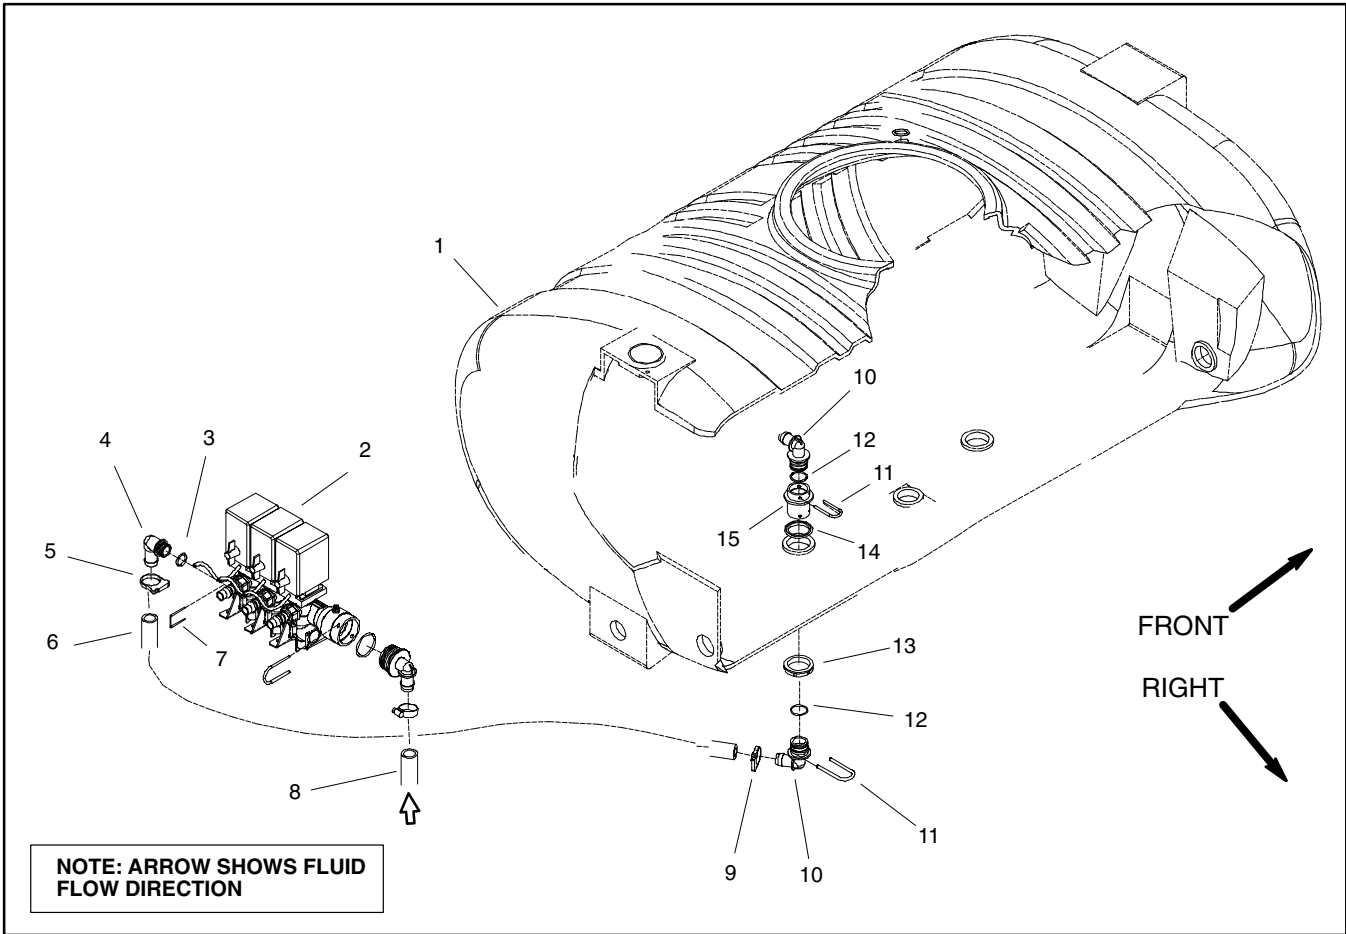

Figure 29
### Disassembly (Fig. 29)
3. Disassemble boom bypass using Figure 29 as a guide. Discard all removed o-rings and gaskets.
### Assembly (Fig. 29)
1. Assemble boom bypass using Figure 29 as a guide. Replace all removed o-rings and gaskets.